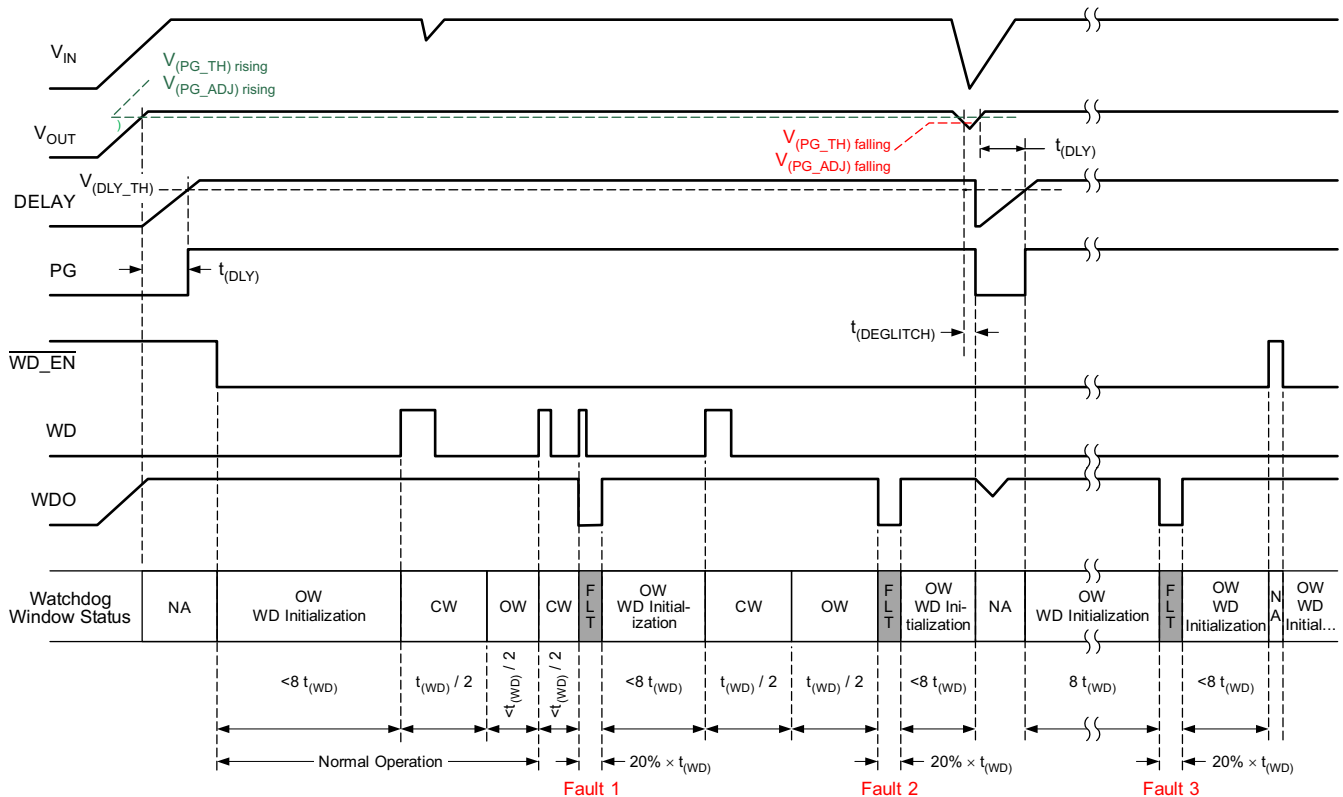

图 7-4. Window Watchdog Operation
The window watchdog is able to monitor whether the frequency of the watchdog service signal (WD) is within certain ranges. A watchdog low-voltage fault is reported when the frequency of the watchdog service signal is out of the setting range. 图 7-4 shows the window watchdog initialization and operation for the TPS7B63xx-Q1 (WRS is low). After the output voltage is in regulation and PG is high, the window watchdog becomes enabled when an external signal pulls $\overline{\text{WD_EN}}$ (the watchdog enable pin) low. This causes the watchdog to initialize and wait for a service signal during the first initialization window for 8 times the duration of t_{WD} . A service signal applied to the WD pin during the initialization open window resets the watchdog counter and a closed window starts. To prevent a fault condition from occurring, watchdog service must not occur during the closed window. Watchdog service must occur during the following open window to prevent a fault condition from occurring. The fault output (WDO), externally pulled up to V_{OUT} (typical), stays high as long as the watchdog receives a proper service signal and there is no other fault condition.
Three different fault conditions occur in 图 7-4: